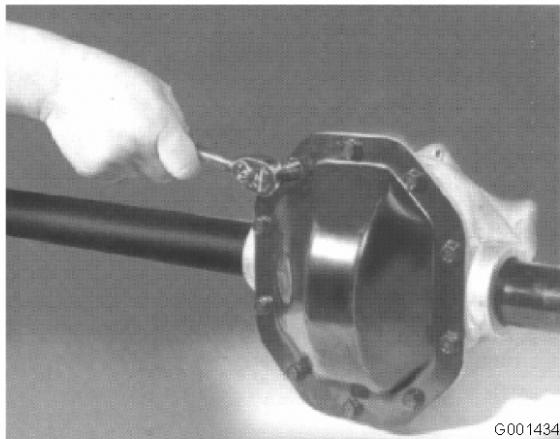

Figure 6
- 2. Remove the ten cover plate screws (Figure 6). Retain the fasteners